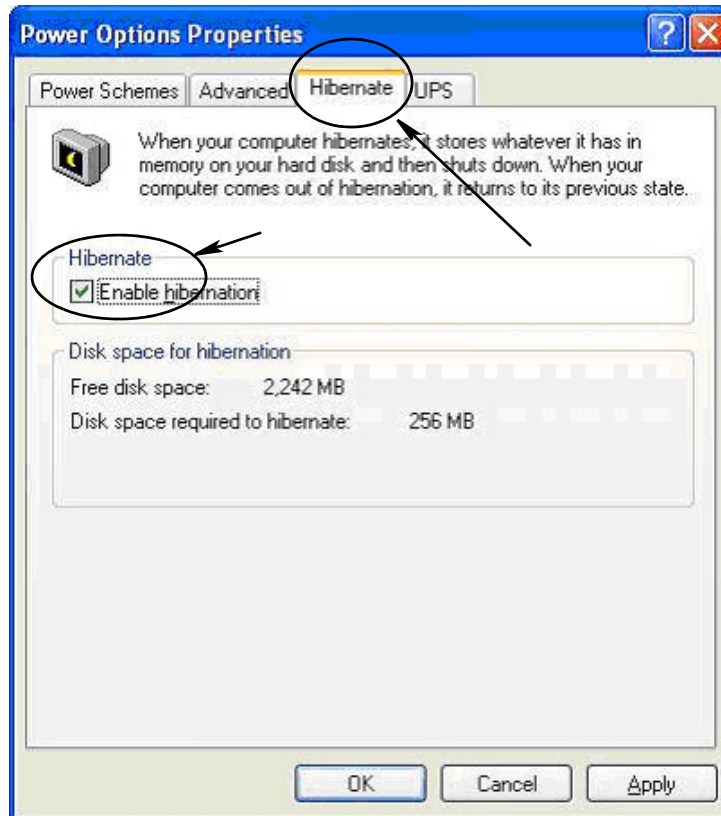

FIG. 45
3. Select the Hibernate tab. Turn off hibernation by clearing (unchecking) the Enable Hibernation check box. Click Apply and OK to close all windows (FIG. 45) and save the changes.